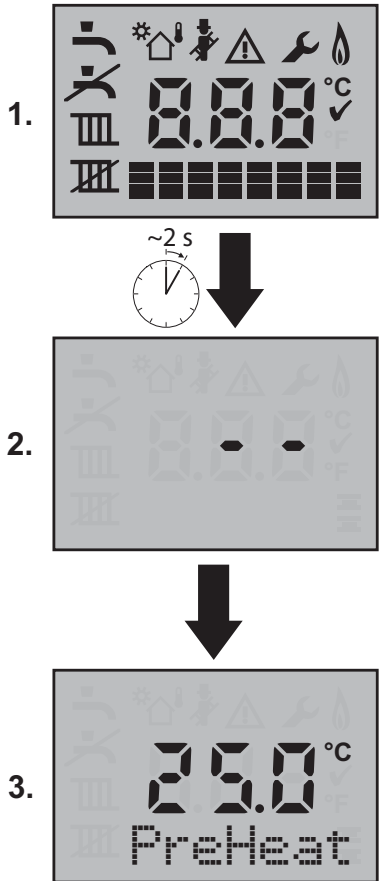

Fig. 60 Boiler start up screen
- ▶ Turn on the mains power supply, initially the “Boiler start up screens” will be displayed (refer to figure 60).